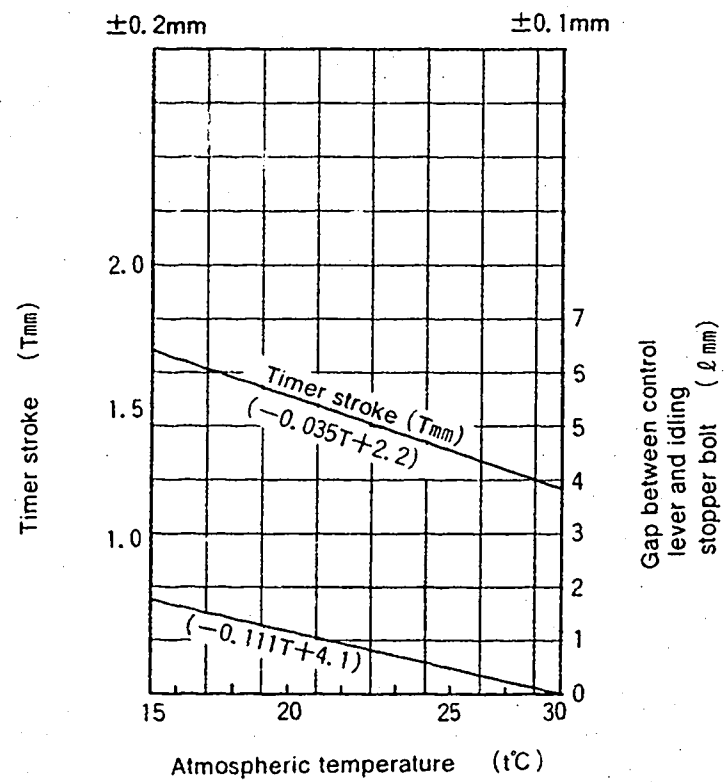

Fig. 2
1. Calculate the timer stroke from Fig. 2 according to the atmospheric temperature at the time of adjustment.
1. Calculate the block gauge dimension $2 \pm 0.05\text{mm}$ from Fig. 2 according to the atmospheric temperature at the time of adjustment.